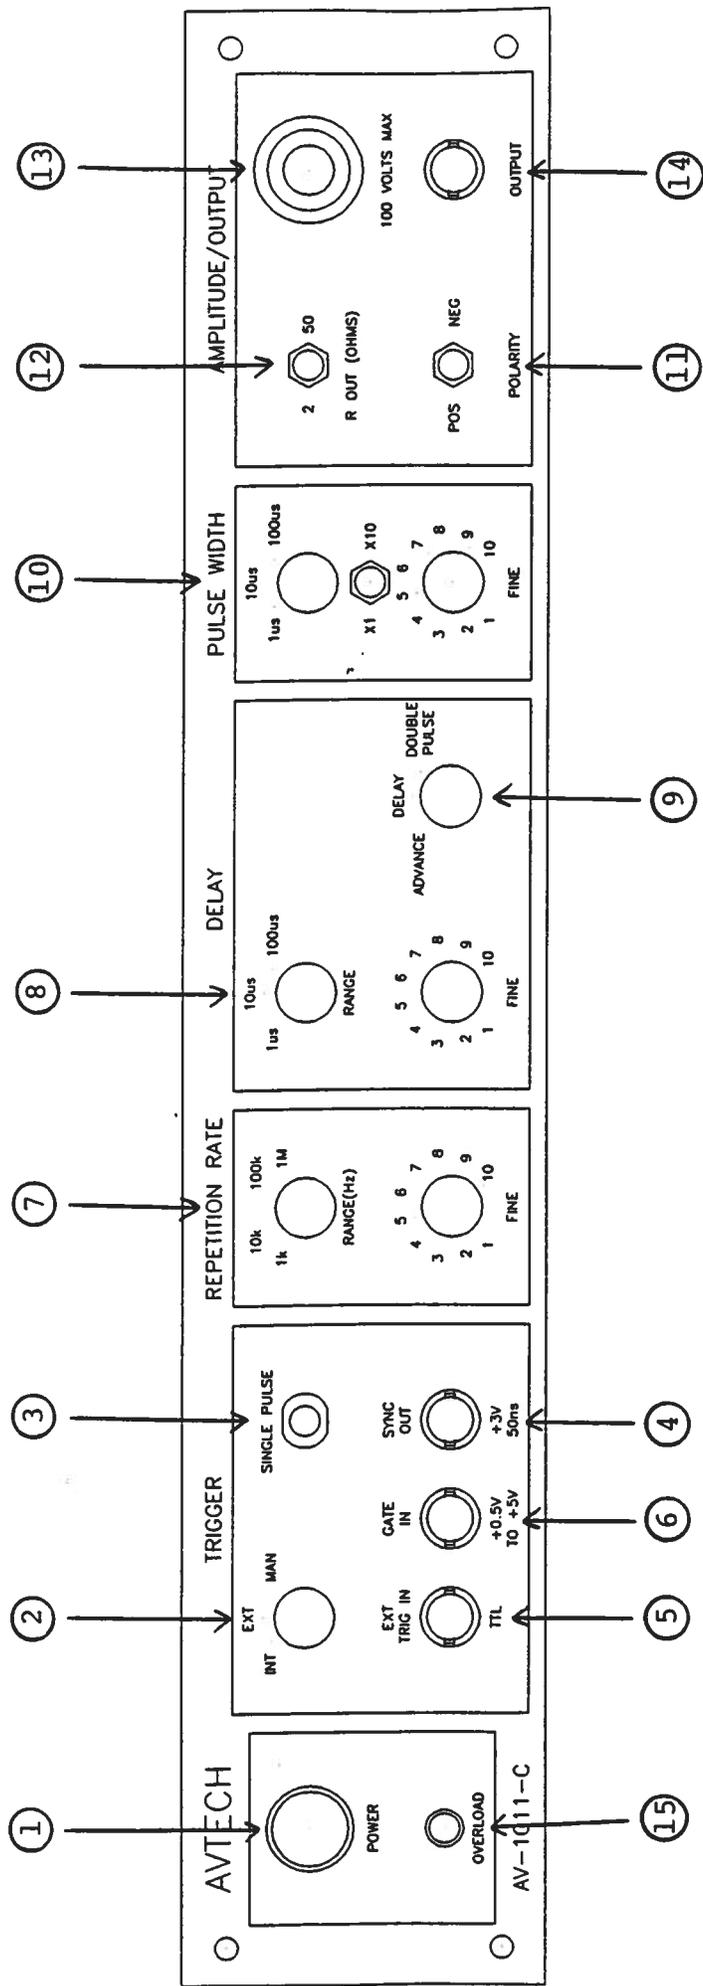

Fig. 1 FRONT PANEL CONTROLS
- 1) The interior of the instrument may be accessed by removing the four Phillips screws on the top panel (see Fig. 1). With the four screws removed, the top cover may be slid back (and off).
- 2) The -R5 rack mount kit may be installed after first removing the one Phillips screw on the side panel adjacent to the front handle (see Fig. 1).